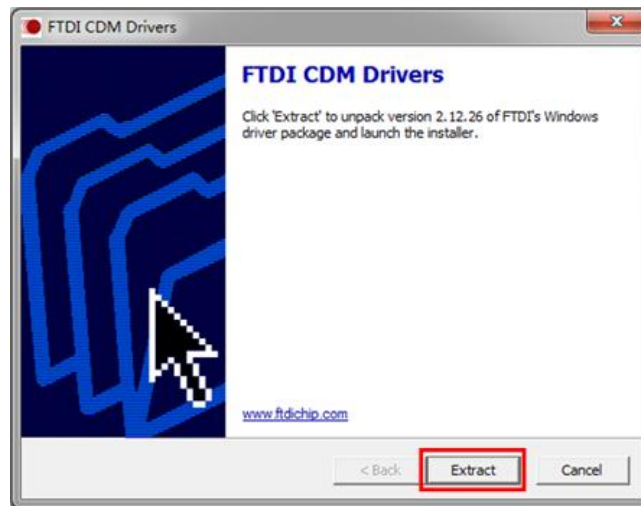

Fig. 3.9
- 1) Double click the driver installation file  , click 'Extract' button Fig. 3.9.